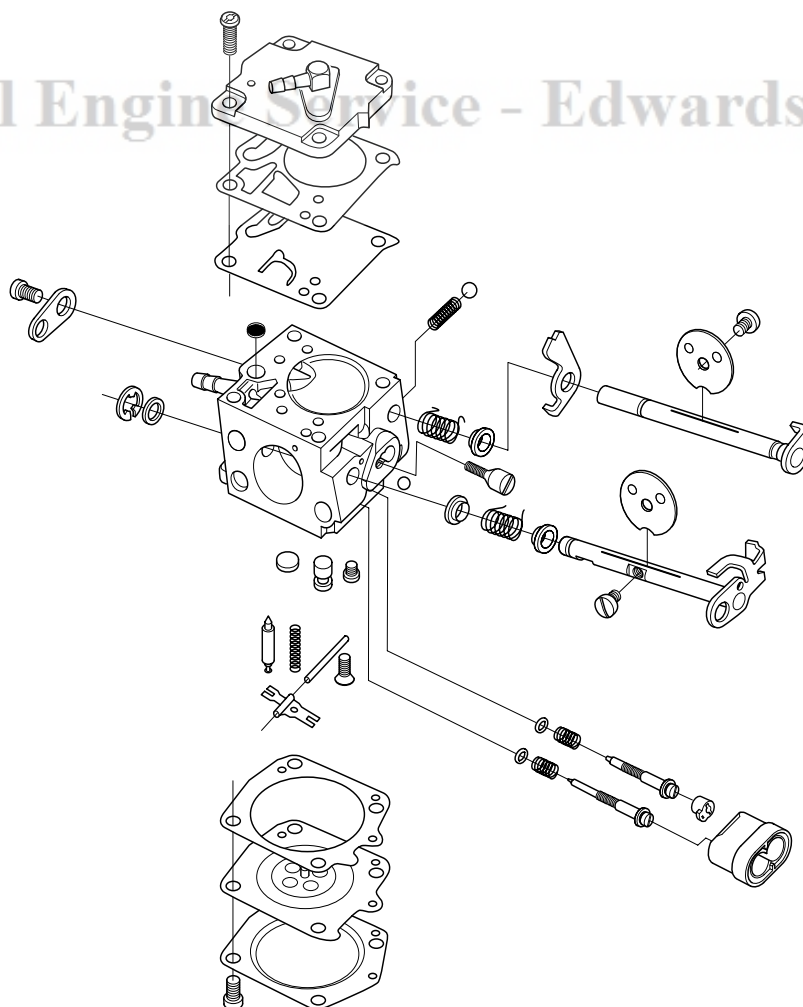

Fig. 12
11. Remove the high and low speed screws. See fig.12.
12. If necessary, remove the throttle and choke valves and remove the spindles together with levers and springs. See fig. 12.